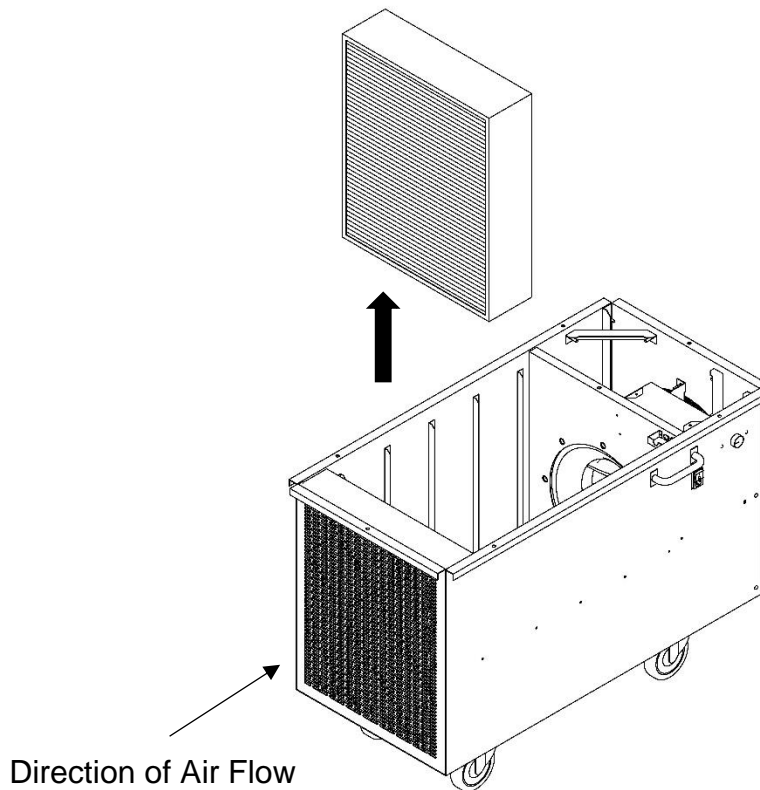

Figure 11
3.) Remove old HEPA filter. See Figure 11.
6.) Reattach the lid and re-insert (6) screws and tightening with an Allen wrench.